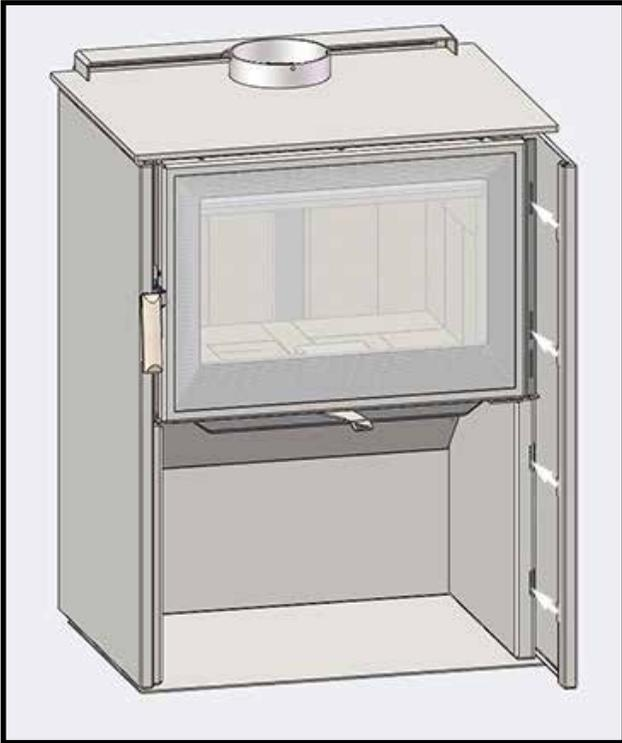

Figure 11: NEOVIEW 2.5 LE Panel front.
1. Guide the Side Panel's front tabs into the slots on the front of the Panel Mounting Brackets located on the side of the unit and the slots in the legs. Pull towards the back to fully engage Figure 11.